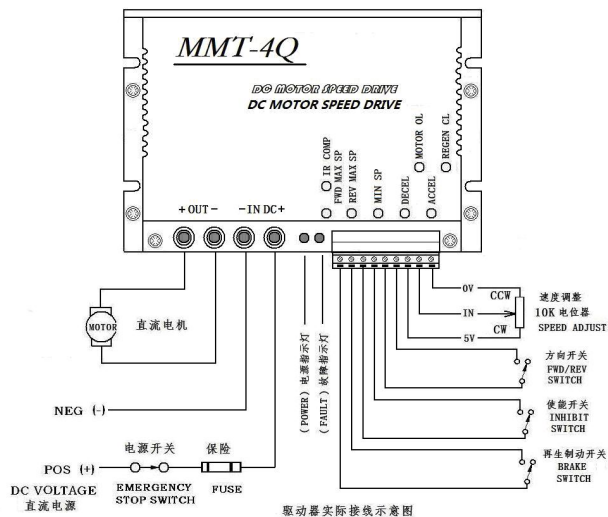

Figure 3
- Please see Figure 3.
- 1.One piece of quick-blowing fuse and power supply emergency switch must be added between power input port of motor controller and power supply in sake of emergency power off in some case. (See Figure 3)
OUT+ and OUT— terminals connected motor controller with DC motor are in Figure 3,please see it.
- C.Adjust external speed setting potentiometers to Max.value(potentiometers contacted with"S1,S2 and S3" in Figure 3).